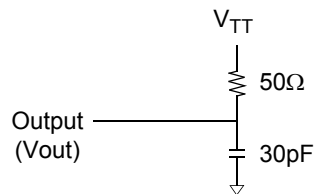

Figure 5. Timing Reference Load
- Figure 5 represents the timing reference load used in defining the relevant timing parameters of the part. It is not intended to be either a precise representation of the typical system environment nor a depiction of the actual load presented by a production tester. System designers will use IBIS or other simulation tools to correlate the timing reference load to a system environment. Manufacturers will correlate to their production test conditions (generally a coaxial transmission line terminated at the tester electronics).